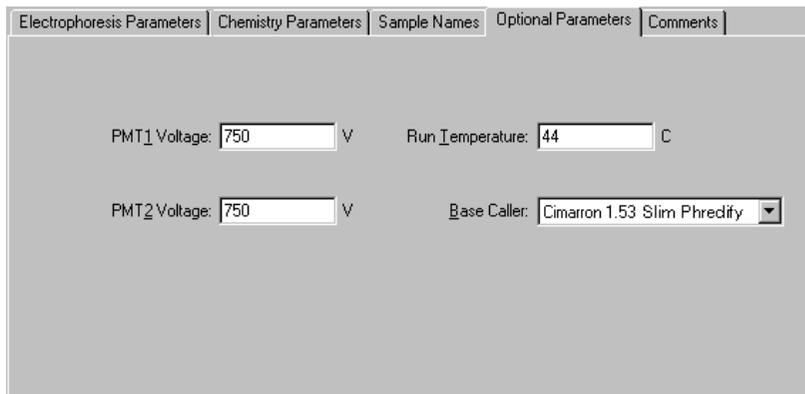

Figure 4-5. The Optional Parameters tab with sequencing parameters displayed.
- (Optional) If you want to include the PMT voltages and run temperature as part of the plate setup parameters, or if you want to specify a different base caller, click the **Optional Parameters** tab. The Optional Parameters tab appears (figure 4-5).